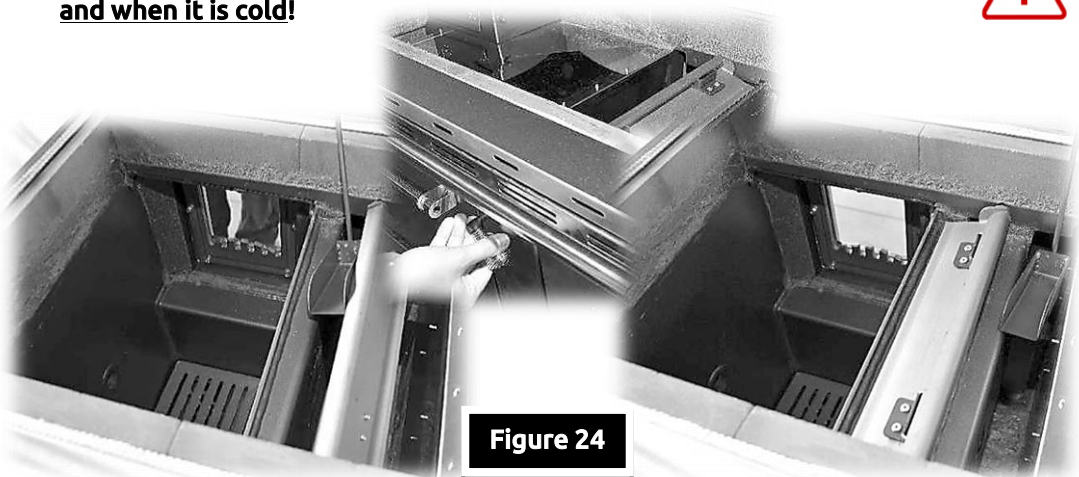

Figure 24
While cleaning the top side of the cooker (*Figure 24*), it is necessary to remove the cooking plate (1) and thoroughly clean the soot from the boiler, around the oven and flue gas deflector, including the chimney outlet opening (16).